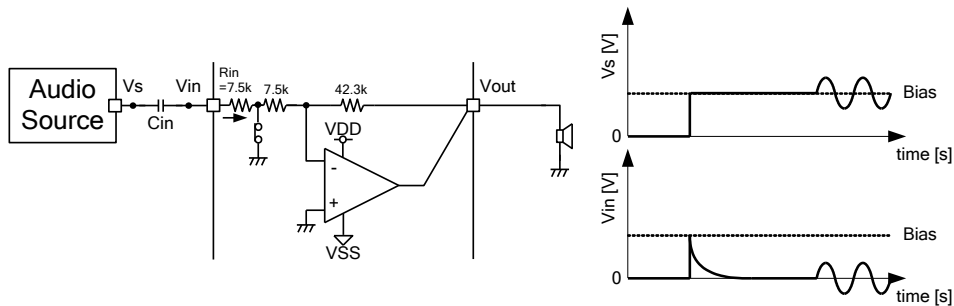

Figure 31. Fluctuation of input terminal voltage when charging input coupling capacitor
① The term from "PVDD, SVDD : ON" to "shutdown ON->OFF"
When power supply (PVDD, SVDD) is applied, it is started that charging input coupling capacitors. Therefore, the input terminal voltage "Vin" is changed as following Figure 31. Time constant "τ" of charging input coupling capacitor is decided by input coupling capacitor Cin and Internal input impedance Rin (See formula (1)). Internal impedance Rin in term of shutdown is 7.5kΩ (typ) for making time constant τ shorten. If "SDB" is changed "L" to "H" (shutdown ON -> OFF) during input DC voltage (Vin) is changing, pop noise may occur. It is recommended that shutdown ON -> OFF ("SDB" : L -> H) after 5τ ~ 6τ.